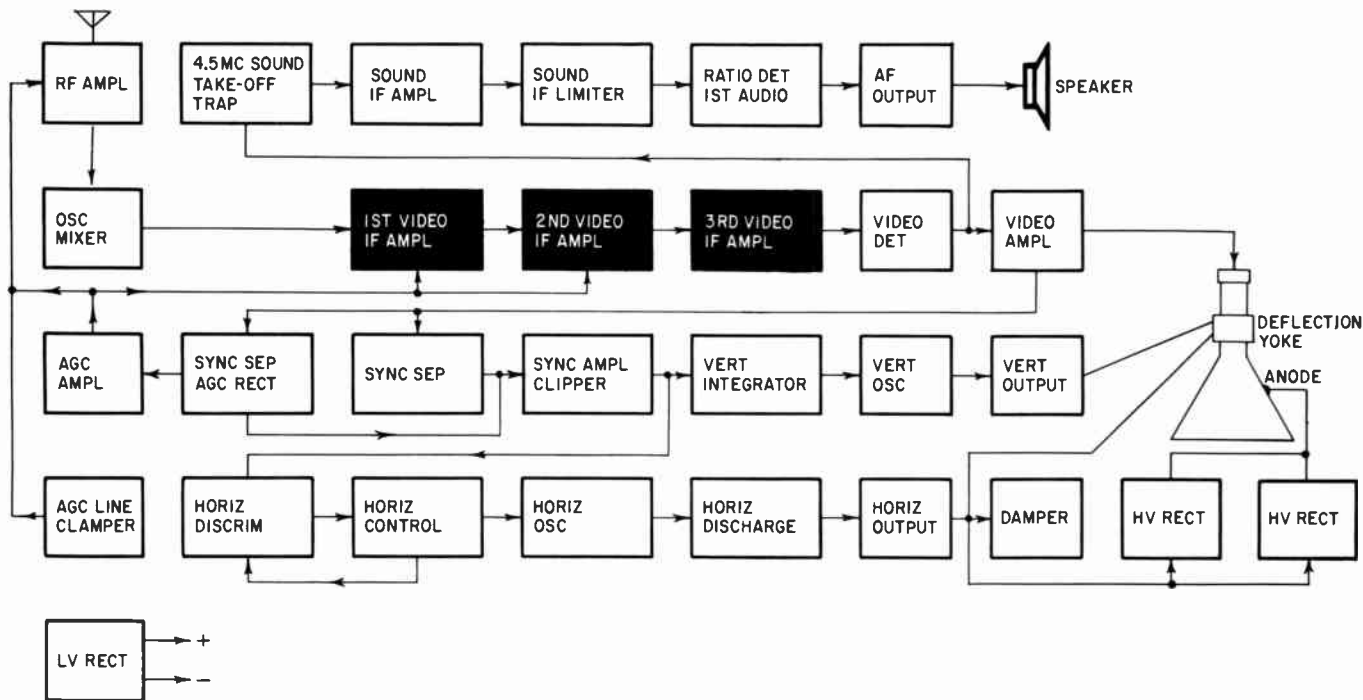

Fig. 201. The signal travels from the front end to the if section (shown here in reverse). The if produces its share of troubles, described in this chapter.
AFTER the signal passes through the front end (or tuner), it is strengthened by a wide-band unit known as the intermediate-frequency (if) amplifier. We are, as you can see, following the progress of the signal and learning about the various things that can happen to it on its way to the picture tube and speaker. Fig. 201 shows the portion of the television receiver that will be covered in this chapter.
The intermediate frequency section of a television receiver (shown in block diagram in Fig. 201) has several important characteristics: (1) It supplies a certain amount of gain, building the signal up to the point where it can operate the picture detector and (2) the bandwidth of the if stage must be great enough